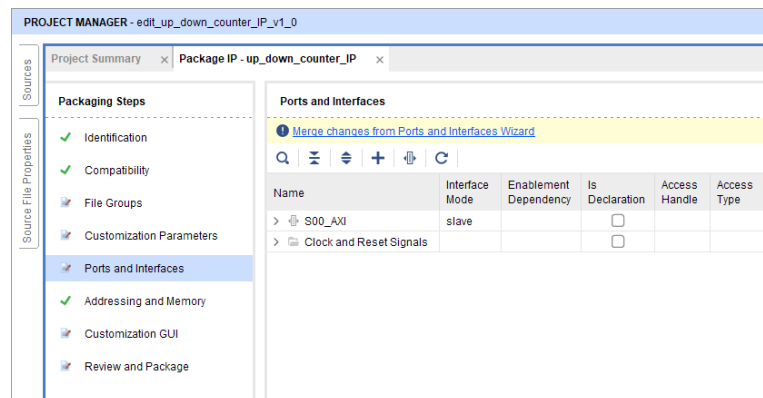

Figure 9
27. Select **Ports and Interfaces** in the left-side list and click **Merge changes from Ports and interfaces Wizard** to add to the IP the external output port of our up/down counter (Figure 9)